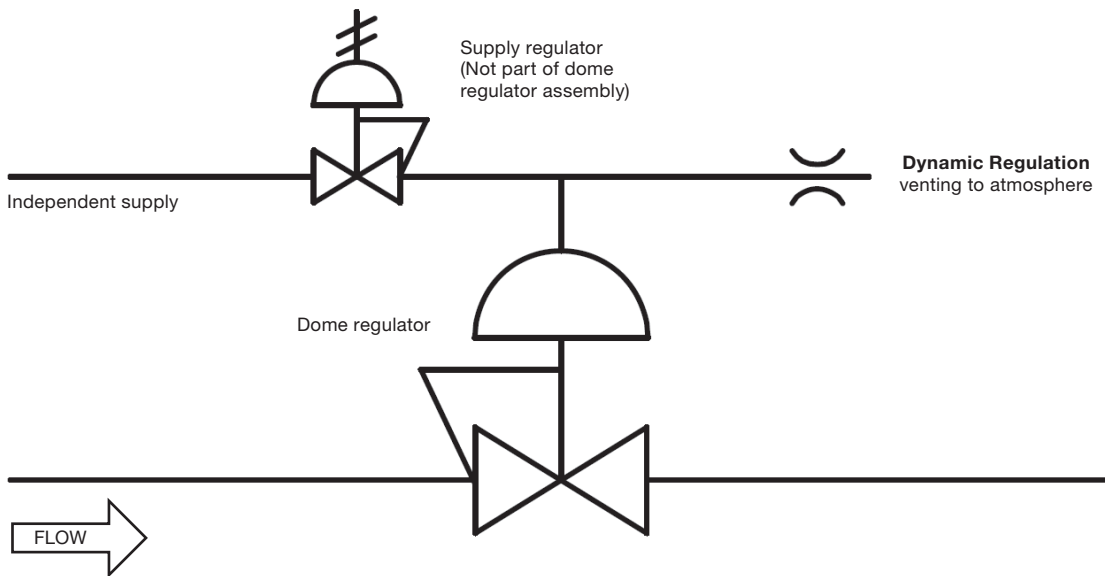

Figure 4
- **External dome control.** In this setup the dome pressure is supplied from an independent source, such as a cylinder or mains supply (Figure 4). The best performance will be achieved by allowing a small flow to continuously pass through the pilot regulator. This flow should be vented through an orifice (Figure 4). This is usually referred to as “dynamic regulation.” This setup is suitable for liquid applications.